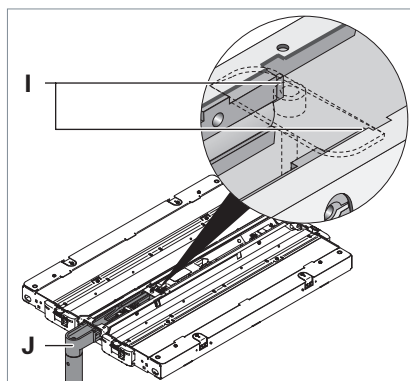

Fig. 24: Dismounting the light chassis from a light with lateral connection.
- Press the two ends **I** of the support arm **J** towards each other with pliers and pull the light chassis off the support arm, see Fig. 24.